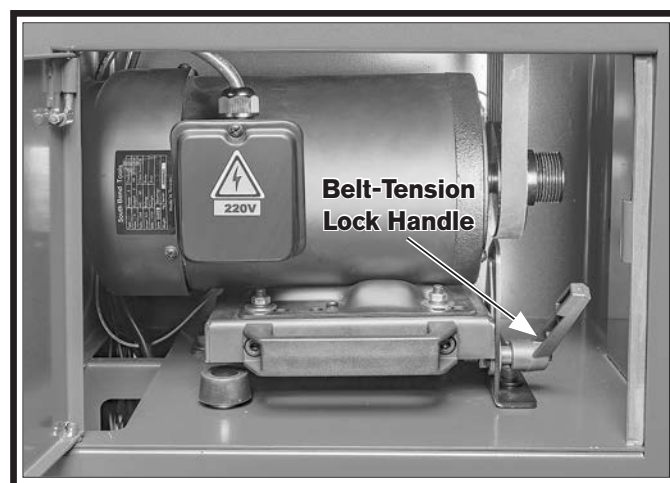

Figure 27. Belt-tension lock handle location.
3. Loosen belt-tension lock handle on motor mount (see **Figure 27**).